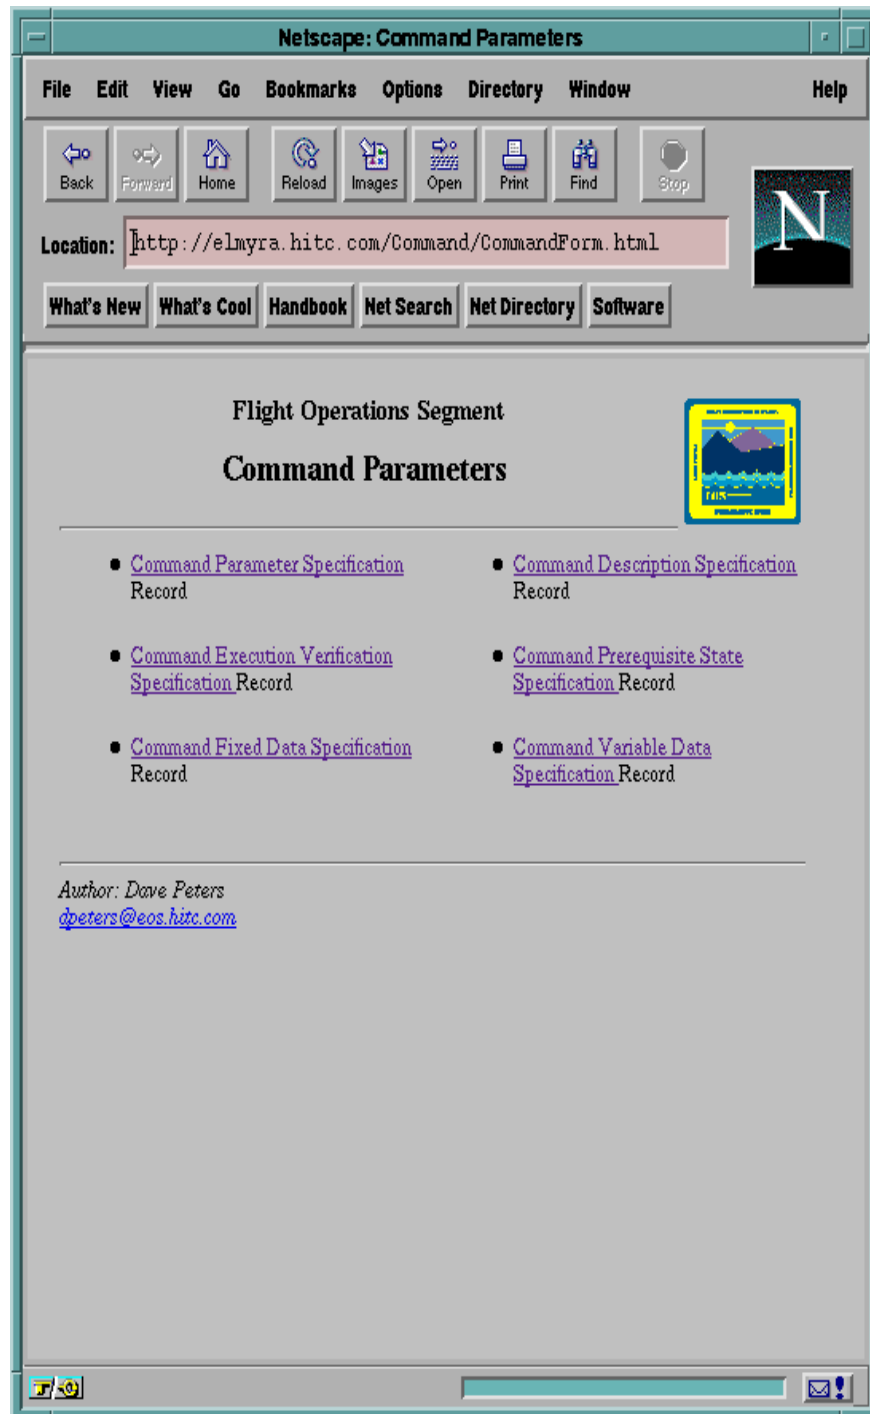

Figure 10.4.4.4.1-1. Command Parameters Window
A. **Command Parameter Specification.** Open the Command Parameter Specification window (see Figure 10.4.4.4.1-2) by clicking **Command Parmeter Specification** on the Command Parameters window. The Command Parameter Specification Record defines a spacecraft or instrument command used to support the EOS spacecraft. Each record provides the construction information for a command. The following is a list of fields associated with the Command Parameter Specification Record: